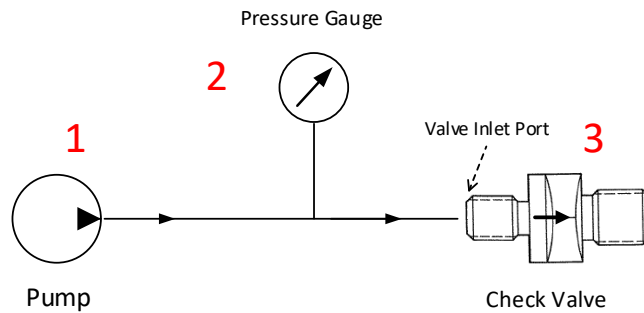

Figure 12: test setup Test Title 3 - 3(3)
(2) Flushing
(3) Cracking Pressure
- Test set up in accordance to Figure 12.